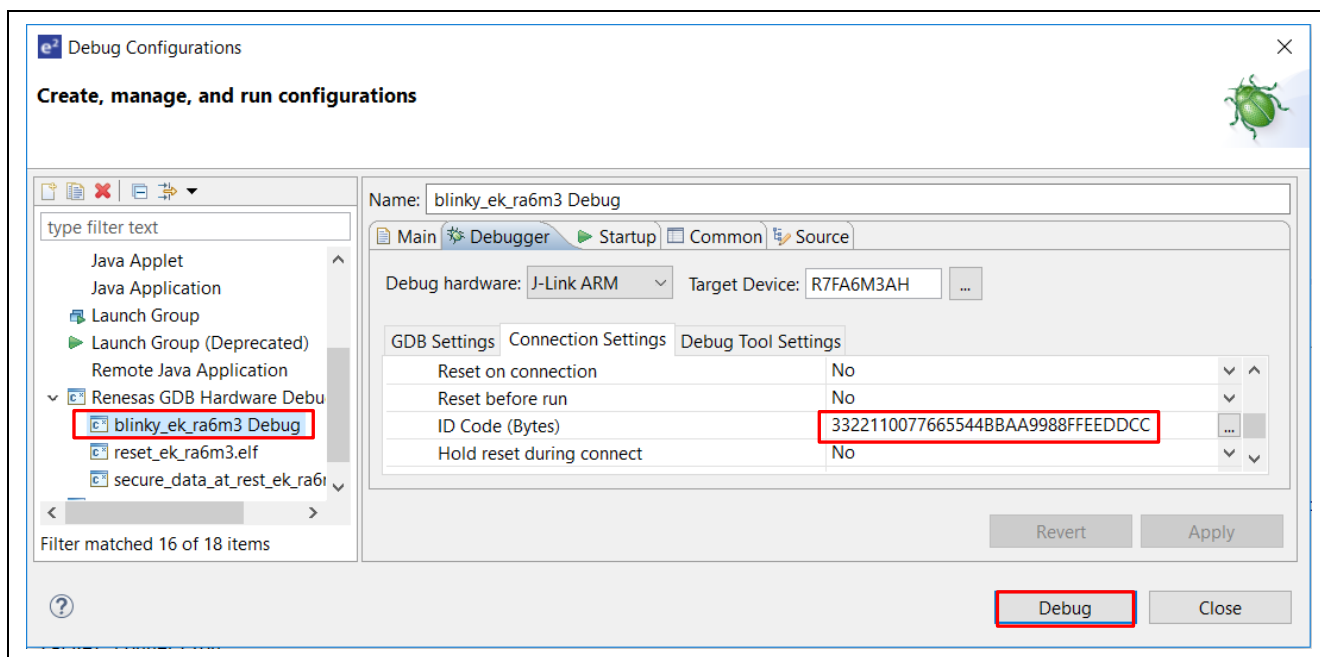

Figure 57. Setup Matching ID Code in Debug Configuration
Step 12: Reset the OSIS ID for the debugger configuration to all FFs (see Figure 57) and confirm the debugging works.